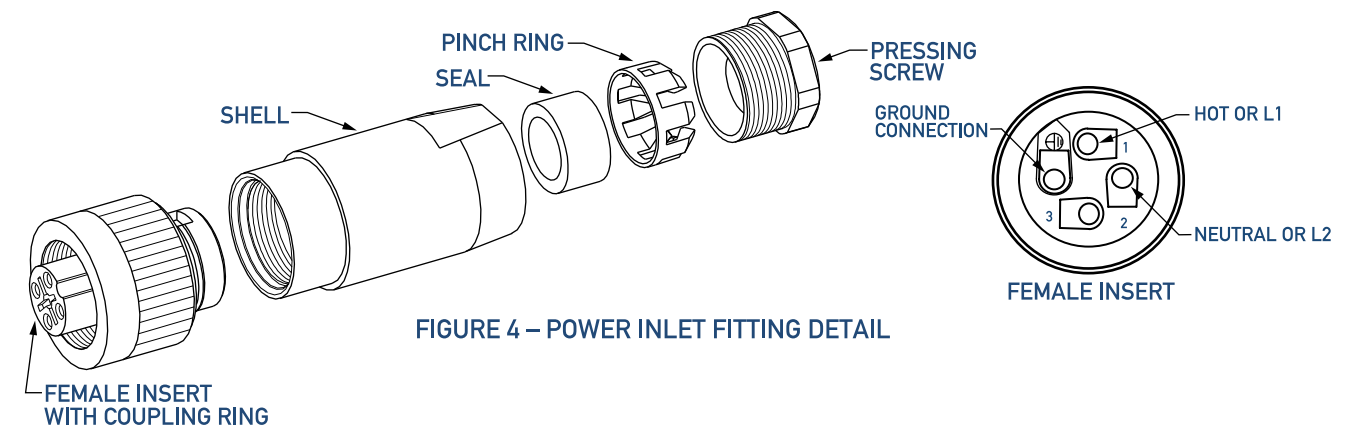

FIGURE 4 - POWER INLET FITTING DETAIL
- A field-installed junction box should be installed within 4 feet of the unit. 3/8 inch flexible metal conduit or BX should be installed between the junction box and the power fitting shown in figure 4.
- See figure 4. Step by step instructions for inserting power wiring into power inlet fitting: